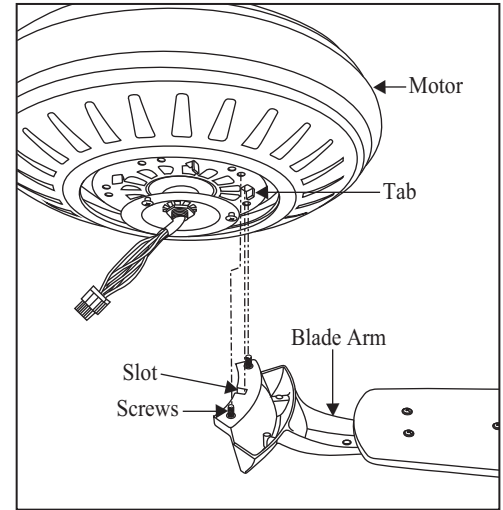

Figure 18
3. Fasten the blade assemblies to the motor housing by lining up the slots of the blade arms with the tabs on the motor housing, then tighten the two screws and washers already installed in the blade arms. (Figure 18)